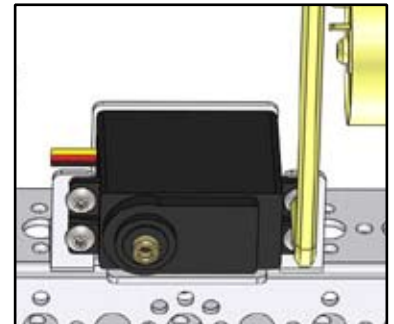

Figure B2
- 2) Slide the servo into the bracket. The flanged sides on the front of the servo should go on the outside of the two prongs of the bracket (Figure B2). Using 3/8" BHCSs and kep nuts, attach the servo to the mount.